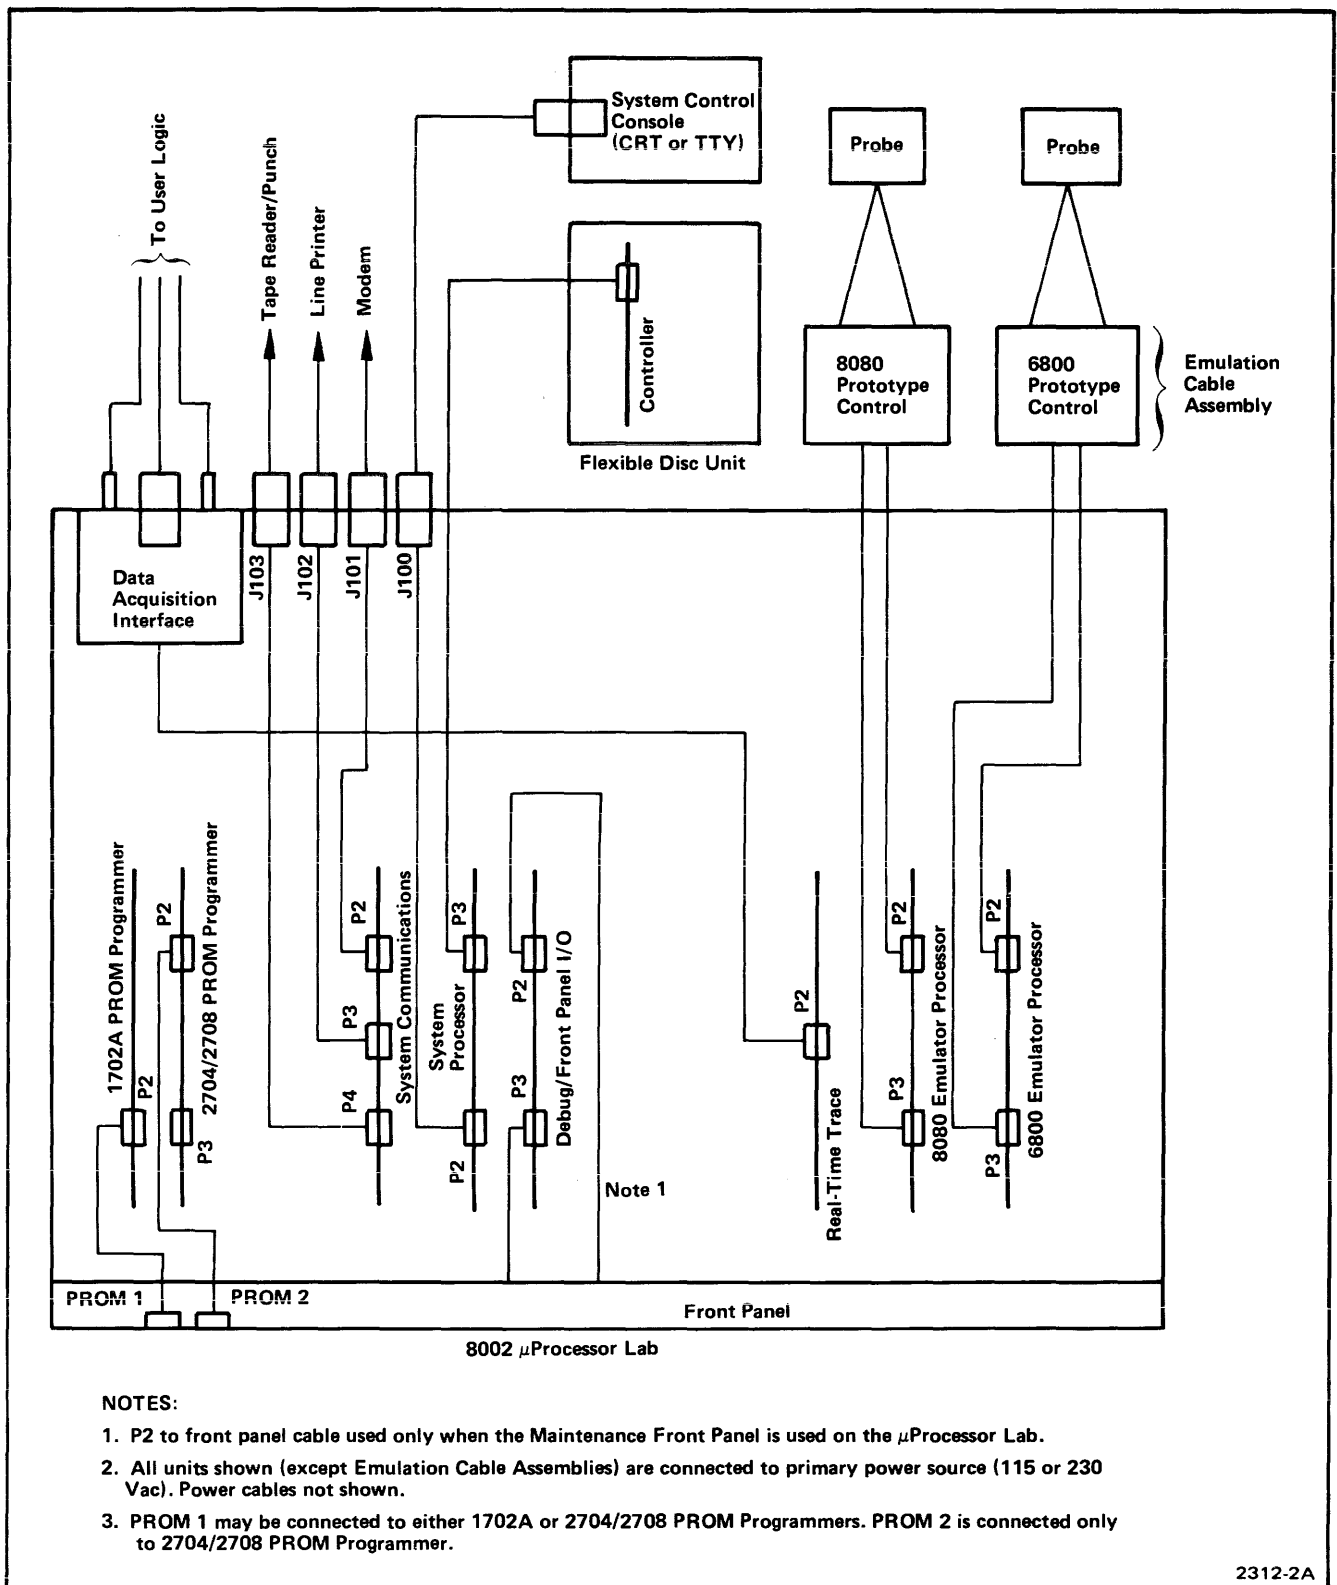

Fig. 1-1. 8001/8002 μ Processor Lab System Interconnect Diagram.
Refer to Fig. 1-1 for the 8001/8002 μ Processor Lab System interconnect diagram. Connect the cables as follows:
2. Connections and routing for interconnecting cables to optional or peripheral equipment must be accomplished in accordance with Fig. 1-1 and instructions in the individual equipment manuals. The emulation cable assemblies that enter the center and right cableways (from a front panel view) on the back panel of the μ Processor Lab must be correctly installed in the cable clamps. Make sure the bared ground plane of the ribbon cables are making contact with the cable clamps to ensure a good ground connection.